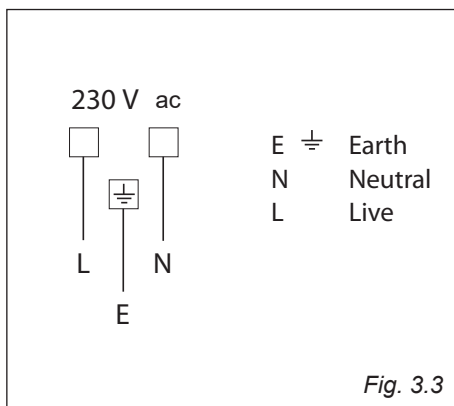

Fig. 3.3
- Connect the phase, neutral and earth cables to the terminal block according to the diagram in figure 3.3.